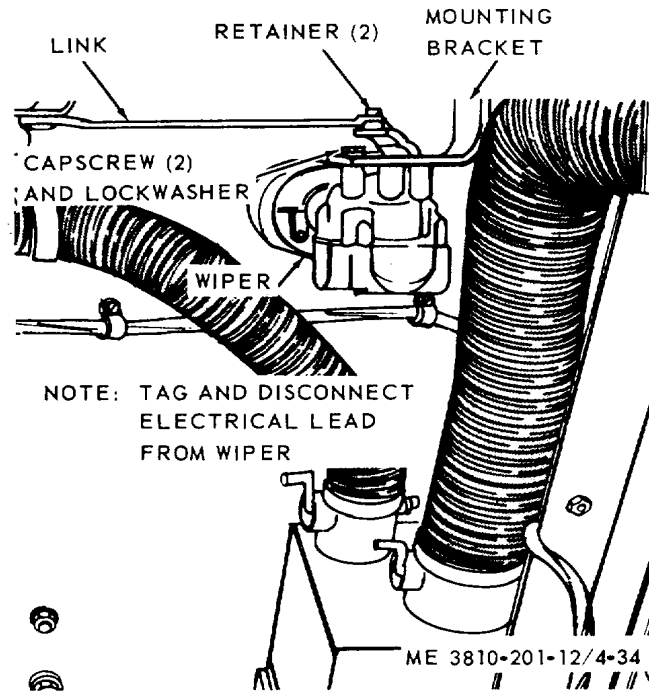

Figure 4-34. Windshield wiper removal and installation.
(1) Disconnect electrical lead from wiper.
(2) Remove two retainers and connecting link (fig. 4-34).
(3) Remove two capscrews and lockwashers that secures wiper to mounting bracket then remove wiper.